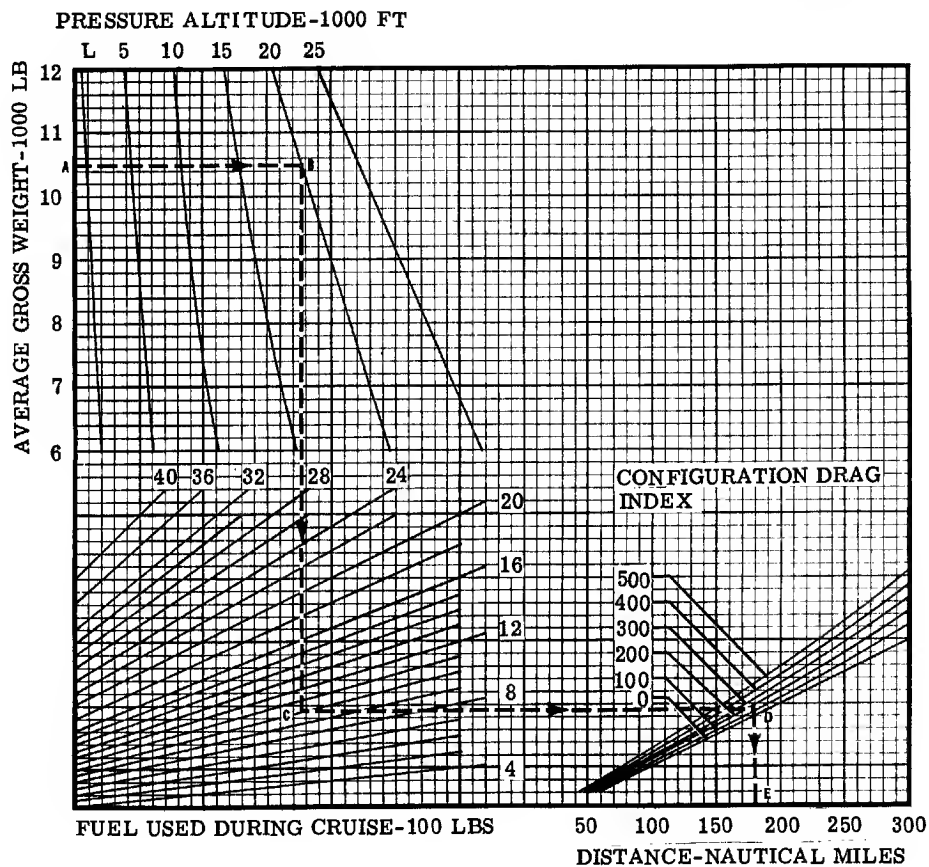

Figure A4-2
- Enter figure A4-2:
The Air Nautical Miles Per Pound of Fuel charts are included to provide the pilot with a means of planning flight whenever the standard Constant Altitude Cruise charts (figures A4-2 thru A4-5) cannot be used. This would be if: (1) it is desired to cruise at speed other than those given in the Constant Altitude Cruise charts or, (2) atmospheric conditions differ appreciably from standard.